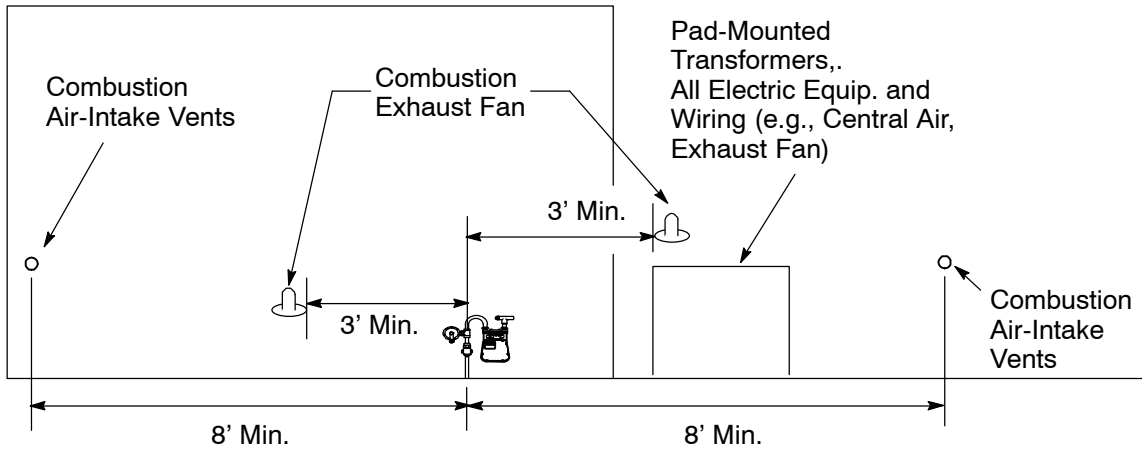

Figure 4
- (c) The riser must be a minimum lateral distance of 8 feet from a forced air intake. (Figure 4) For a large meter set or multi-meter manifold this clearance requirement will extend 8 feet beyond the farthest Company meter set equipment.